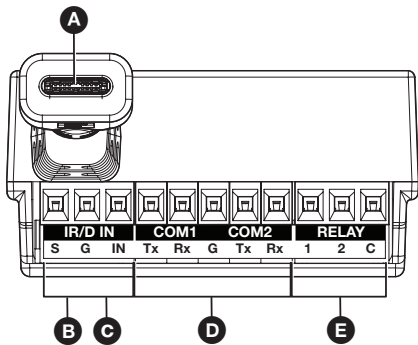

Figure 2. TLCA 2 Adapter — Top View
- D COM ports** (two, with shared ground wire) (see figure 2 on page 1) — See **COM ports** on page 3 for installation information.